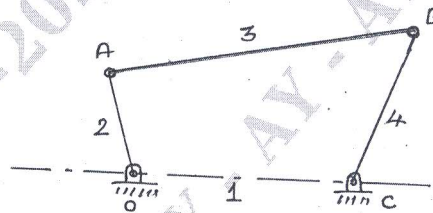

Fig. Q5 (b)
b. Develop the equations for the angular velocities and angular accelerations for the links 3 and 4, of the fourbar mechanism shown in Fig. Q5 (b) using complex algebra method (Raverin Approach). (15 Marks)